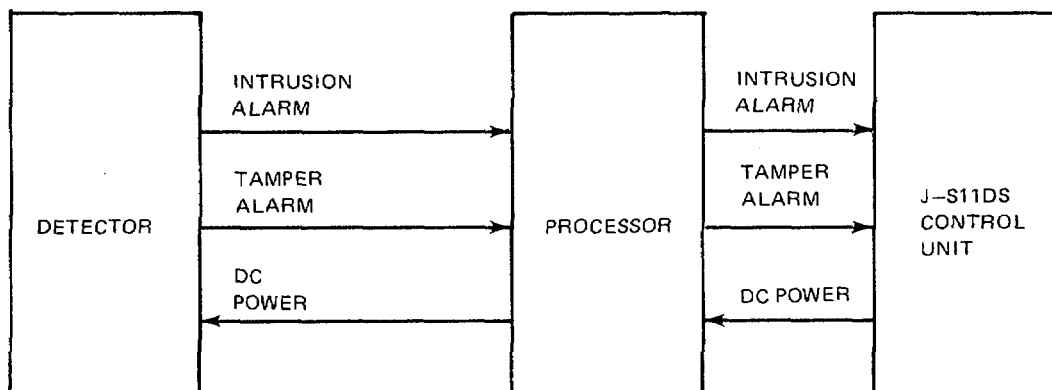

Figure 2-1. Vibration Sensor Group Simplified Block Diagram
**2-5. FUNCTIONAL DESCRIPTION.** The VS consists of a Processor and up to twenty Detectors for sensing intrusion generated vibrations in the 10- to 15-kHz (audible) range. Figure 2-1 is a simplified block diagram of the VS. The VS will detect structurally transmitted vibrations resulting from an attempted forced entry by drilling, cutting, burning, or chipping through protective barriers. The Detector will sense vibrations generated within approximately 3 feet (1 meter) of its position.